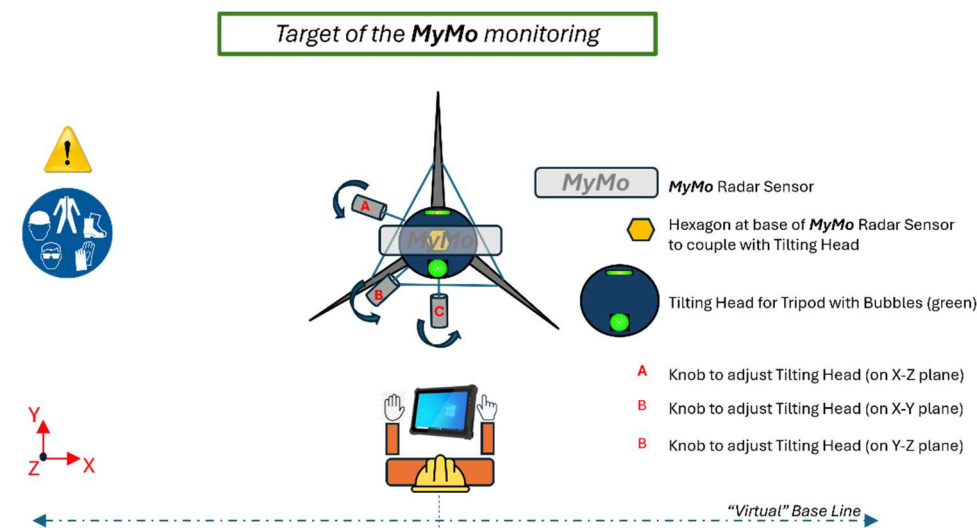

Fig. 4 Sketch of the MyMo installation (View from top)
4. Fix and adjust the three knobs (A, B, C in Fig. 4) so that all planes (X-Z, X-Y, and Y-Z) are set to 0° (red circle below),
The conceptual sketch of Fig. 4 illustrates, in a schematic way, how **MyMo** should be set up before starting a monitoring campaign.